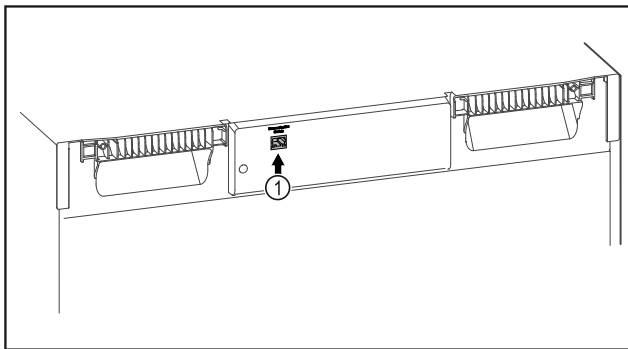

Fig. 108
- ☐ SmartModule Fig. 108 (1) is in use.